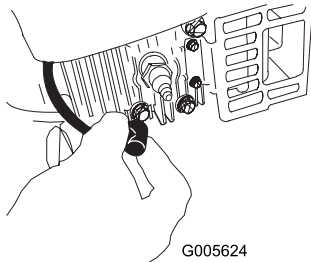

Figure 36
2. Disconnect the spark plug wire from the spark plug before performing any maintenance procedure (Figure 36).